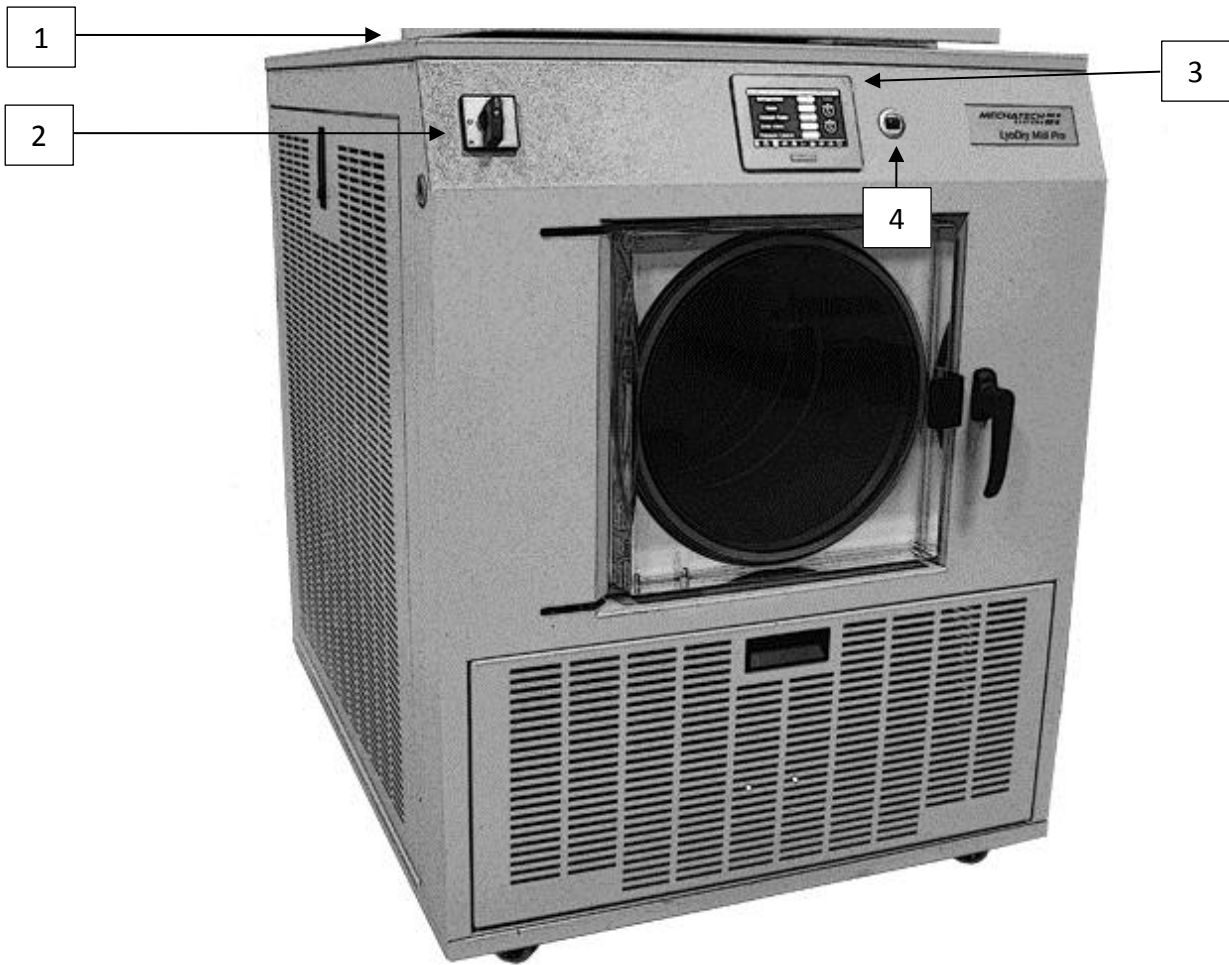

Figure 1 – LyoDry Midi Pro. Front View
2. Ensure that the main switch (item 2, figure 1) is on the '0' (off) position.
1. Switch on the electrical supply and then turn the main switch (item 2, figure 1) to the '1' (on) position.
2. The display (item 3, Figure 1) on the front panel should be illuminated.
10. Attach an empty drying accessory to the accessory flange (item1, Figure 1).
Selecting the Export screen from the Home screen allows a user, with a high enough access level, to archive the recorder history, to a 'memory stick' plugged into the USB port at the front of the unit (item 7, figure 1). The archived data remains in the flash memory of the instrument.